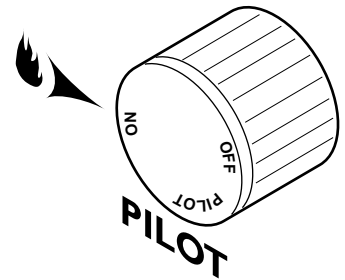

Figure 49 - On Position
Depress and turn the knob counterclockwise  to the "ON" position. See Figure 49. It will take less than four (4) seconds for the burner to ignite.